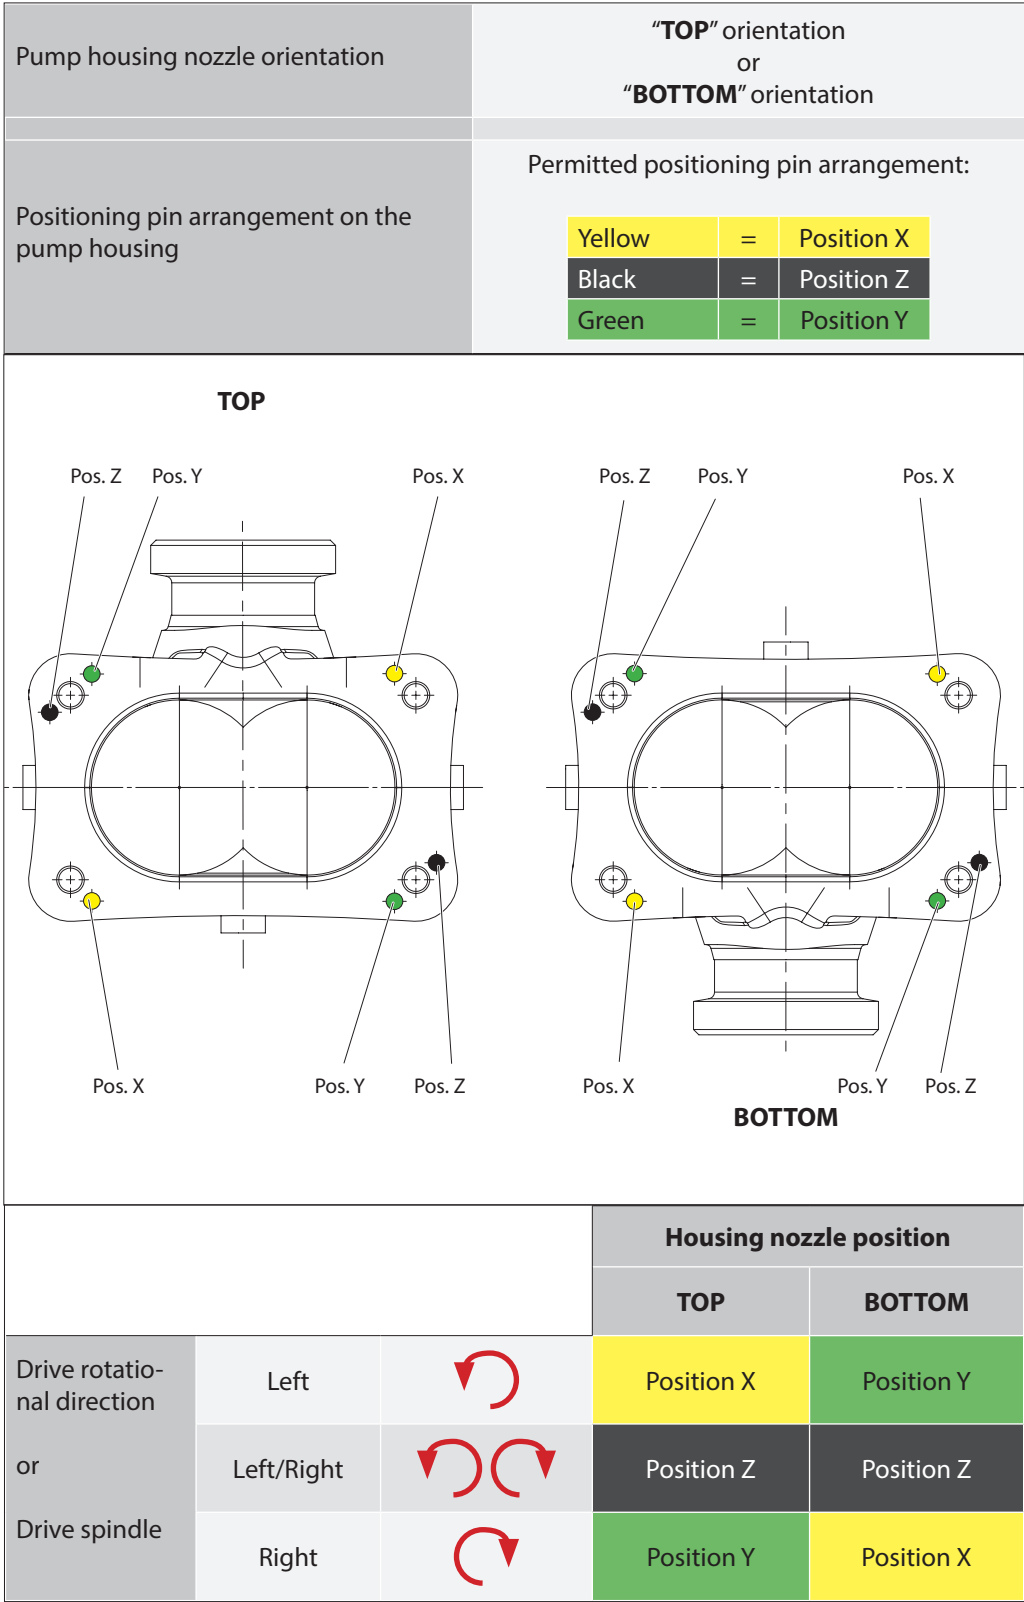

Fig. 7.1: Factors that affect the flow direction of the medium that will be transported
The medium's flow direction depends on several factors (see Fig. 7.1)
- ▶ Select the nozzle orientation on the pump housing (see Fig. 7.1)
- ▶ Choosing the positioning pin arrangements on the pump housing (see Fig. 7.1)